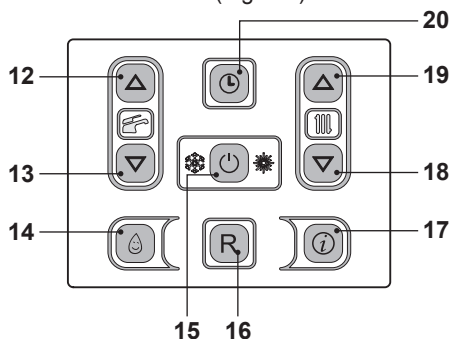
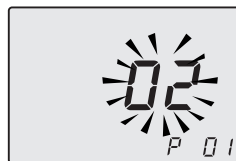
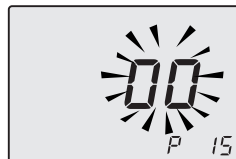

Fig. 8.7
Fig. 8.8
Fig. 8.9
- Enter in "programming mode" by sequentially pressing and holding keys 15 - 18 - 19 (Fig. 8.7) for 10 seconds at the same time until the letters **P01** are displayed on the LCD display, indicating that "parameter 01", has been activated (Fig. 8.8).
- Scroll the various parameters using keys 18 or 19 until the letters **P15** are displayed on the LCD display, indicating that "parameter 15" (Fig. 8.9) has been activated.
- By pressing key 15 (Fig. 8.7) confirmation of the inserted value is obtained.
- Press keys 18 or 19 (Fig. 8.7) to exit without changing the value (Fig. 8.9)
However, if the ambient temperature is not comfortable, the flow temperature of the heating plant can be increased or reduced by  $\pm 15^\circ\text{C}$  by acting on keys 18 (reduce) and 19 (increase) (Fig. 8.7).